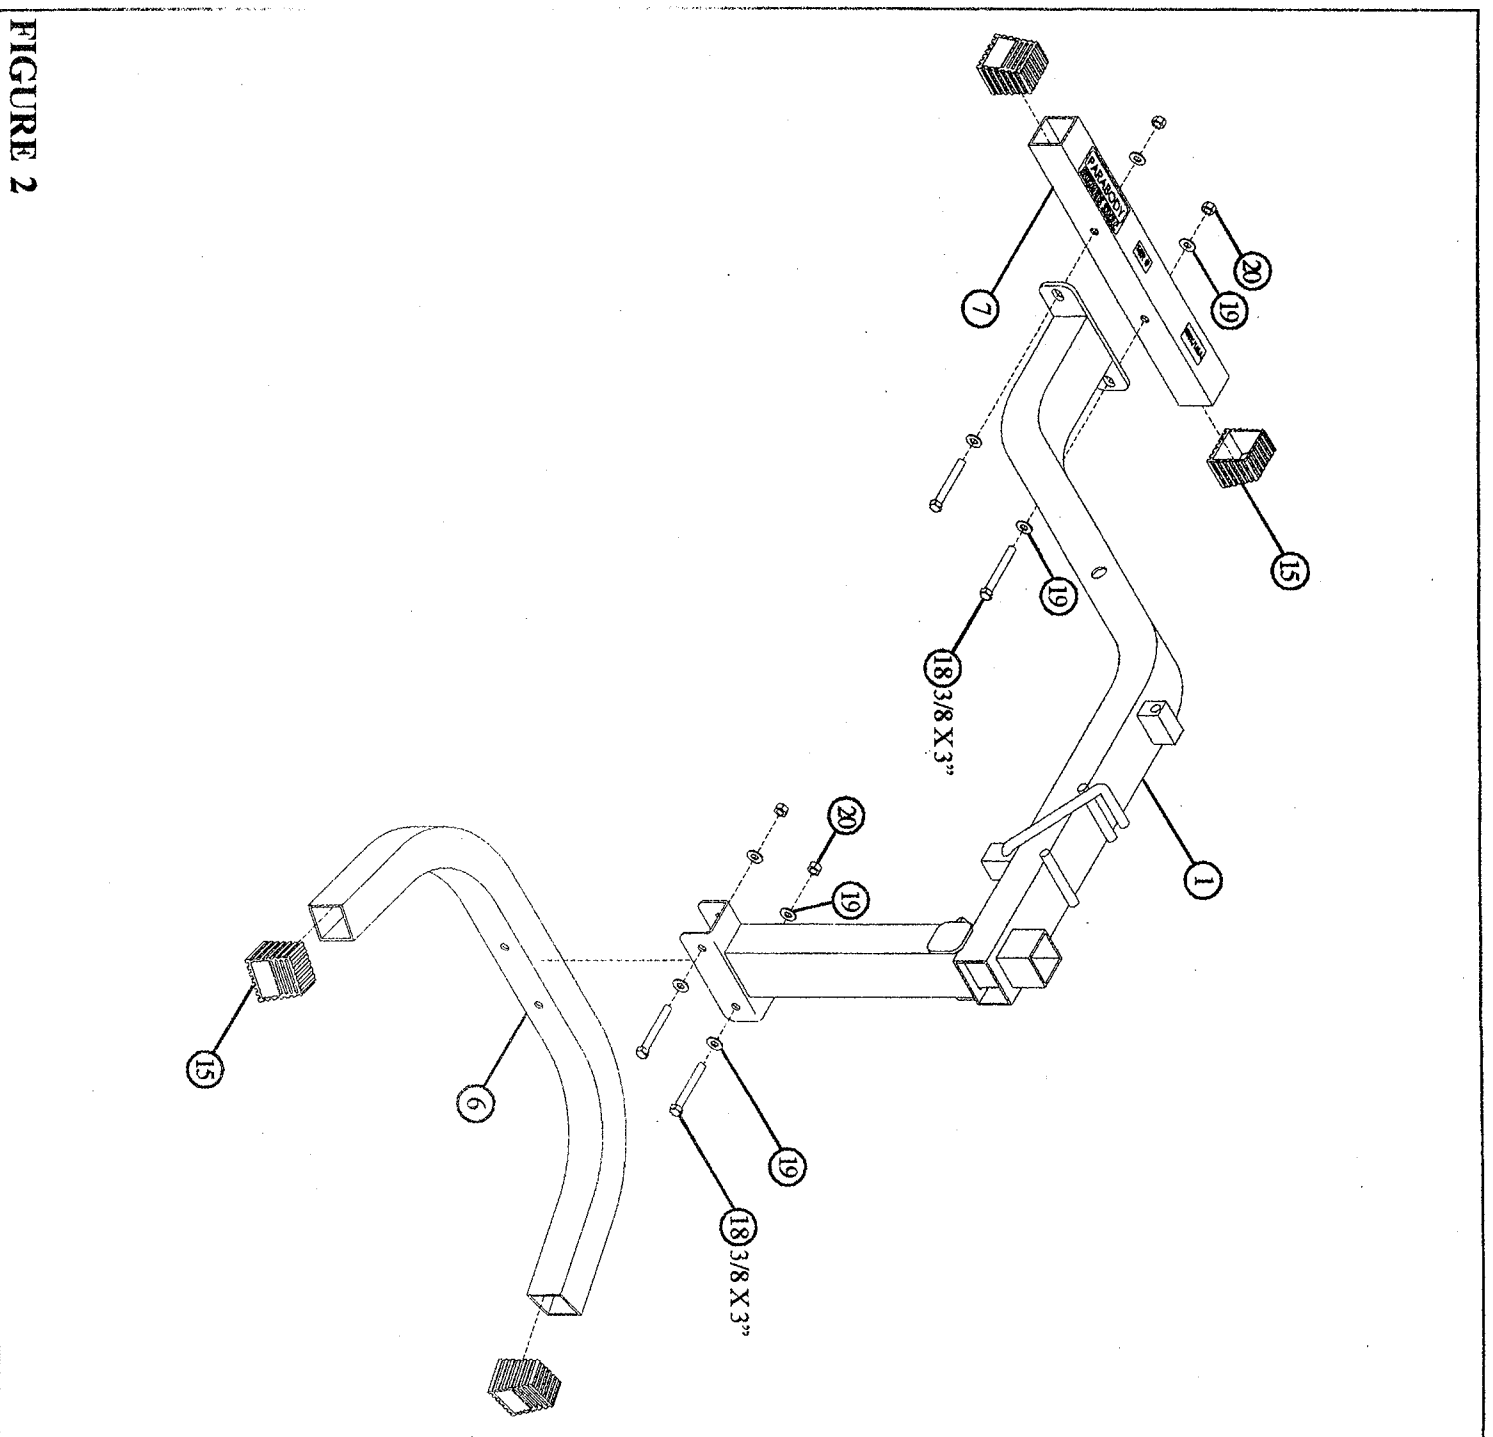

FIGURE 2
- Slide four 2" SQ. COVER CAPS (15) over the ends of the FRONT & REAR BASE (6 & 7) as shown in FIGURE 2.
- SECURELY assemble the FRONT BASE (6) to the BENCH FRAME (1) using two 3/8 X 3" BOLTS (18), four 3/8" WASHERS (19), and two 3/8" LOCK NUTS (20). See FIGURE 2.
- SECURELY assemble the REAR BASE (7) to the BENCH FRAME (1) using two 3/8 X 3" BOLTS (18), four 3/8" WASHERS (19), and two 3/8" LOCK NUTS (20). See FIGURE 2.